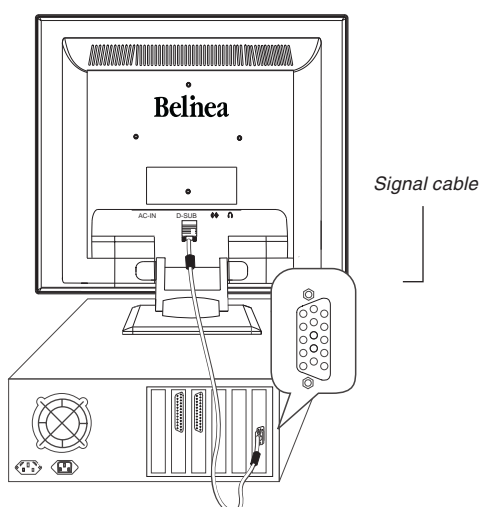

Figure 2. Connecting the monitor to the PC
2. Connect the 15-pin signal cable to the monitor and the PC (see fig. 2).